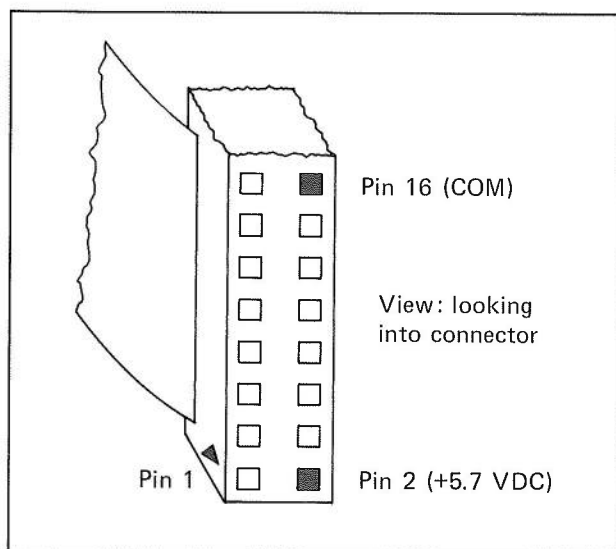

Figure 7 — 50-pin Female Connector on Cable
Step 12 — Locate pin 2 (+5.7 VDC) and pin 16 (COM) on the connector of the Distribution Panel Cable. (See Figure 7.) Use a digital voltmeter to adjust the external power supply output voltage for +5.7 VDC (± 0.05 V).